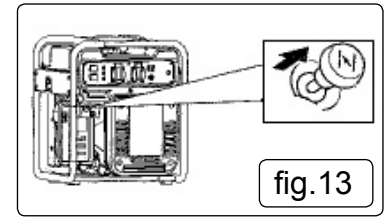

fig.13
- 4.10.4. Pull the choke knob fully out fig.13. (The choke is not required to start a warm engine.)